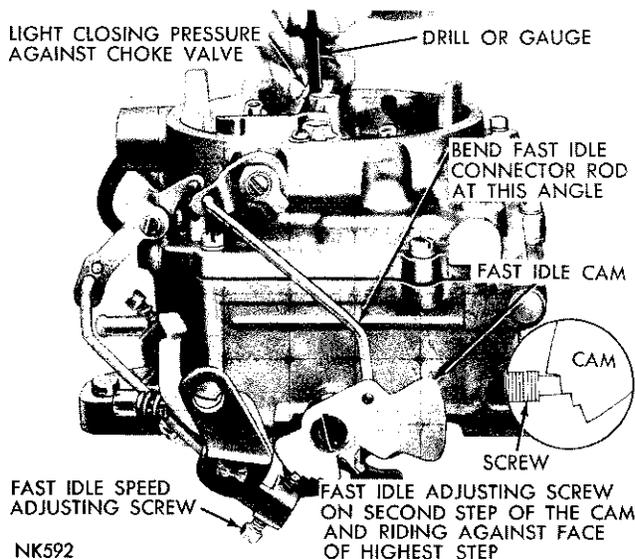

Fig. 13—Fast Idle Cam Position Adjustment
- (1) With the fast idle speed adjusting screw contacting the step on the fast idle cam, shown in (Fig. 13), move the choke valve toward the closed position with light pressure. Insert a NO. 50 drill between the choke valve and the wall of the airhorn.
- (2) An adjustment will be necessary if a slight drag is not obtained as the drill is being removed.
- (3) If an adjustment is necessary, bend the fast idle connector rod at the angle, using Tool T109-213 until the correct valve opening has been obtained. Refer to (Fig. 13).